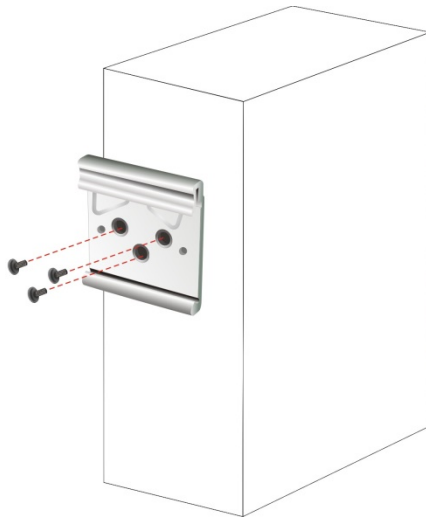

Figure 3-21: DIN Rail Mounting Bracket Installation
Step 1: Attach the supplied DIN rail mounting bracket to the rear panel of the embedded system. Secure the bracket to the embedded system with three retention screws (Figure 3-21).